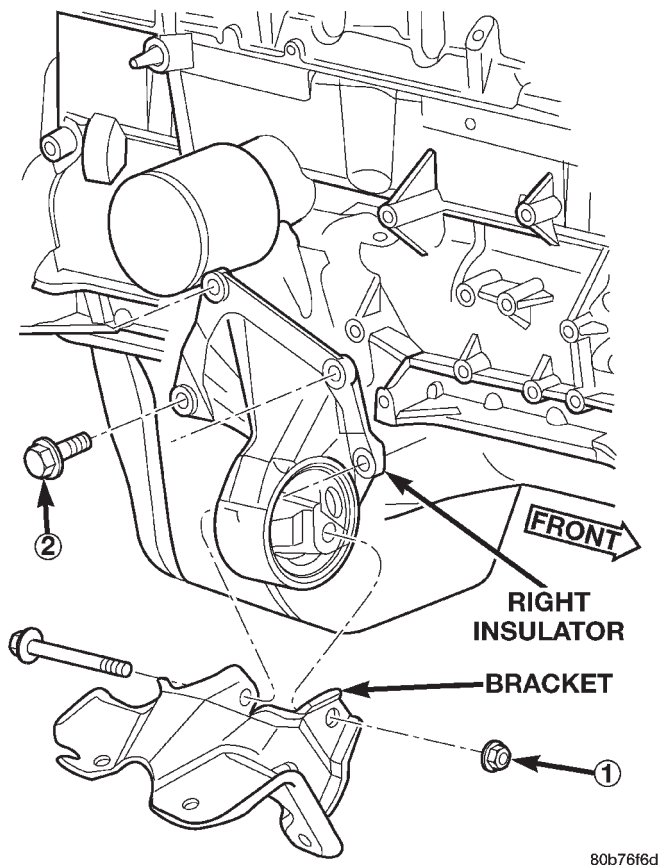
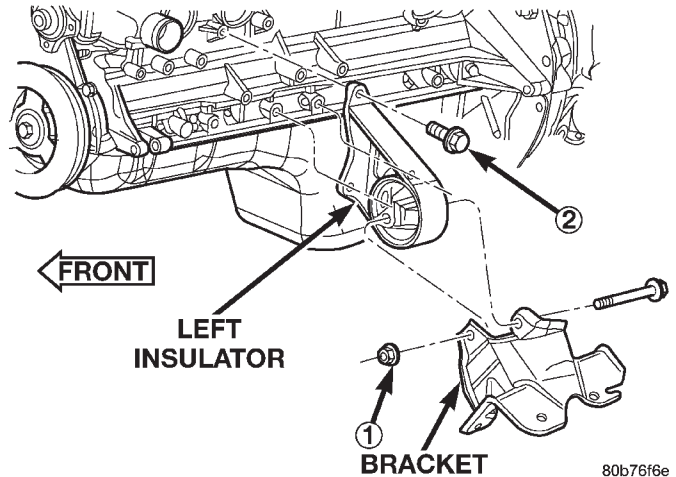

Fig. 23 Front Engine Mount—Right Side
Fig. 24 Front Engine Mount—Left Side
- (1) Disconnect the negative cable from the battery.
- (2) Raise the vehicle.
- (3) Support the engine.
- (4) Remove the insulator assembly-to-lower front sill bolts (Fig. 23) (Fig. 24).
- (5) Raise the engine slightly.
- (6) Remove the through bolt nut and through bolt. Remove the insulator (Fig. 23) (Fig. 24).
- (7) If required, remove the engine bracket from the block.